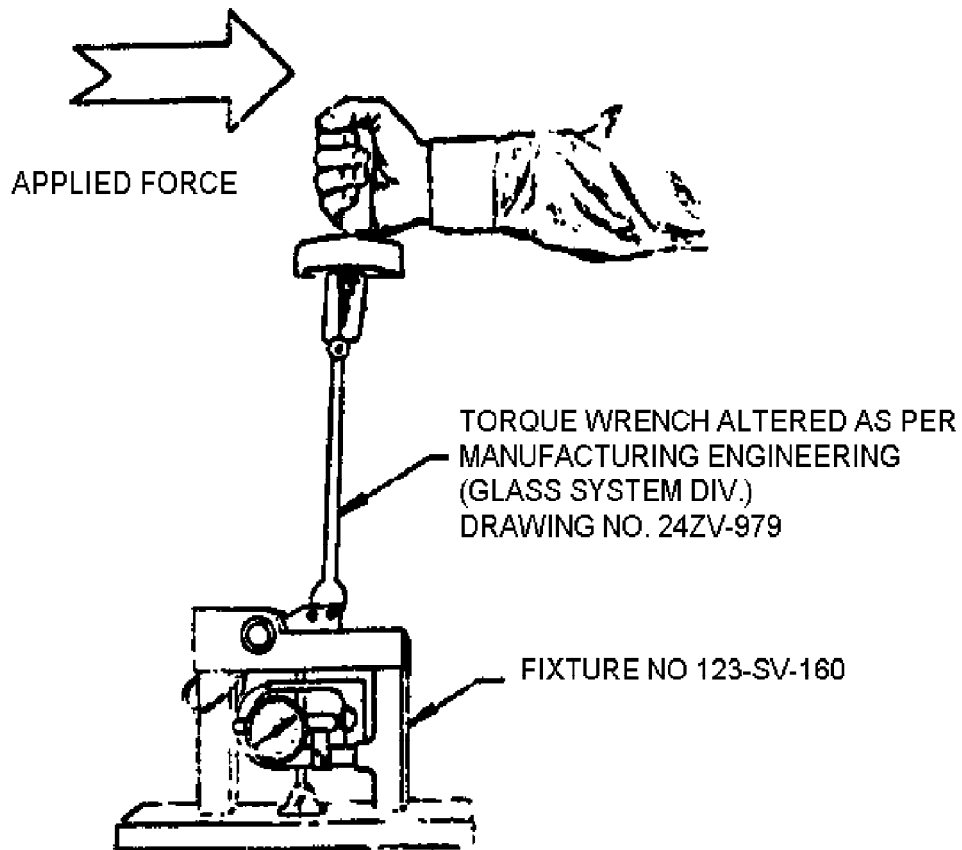

Figure 1
2. Attach the modified torque wrench to the mirror bracket as shown in Figures 1 and 2.
3. Apply a force as specified by the relevant engineering material specification to the torque wrench in the direction shown in Figures 1 and 2.